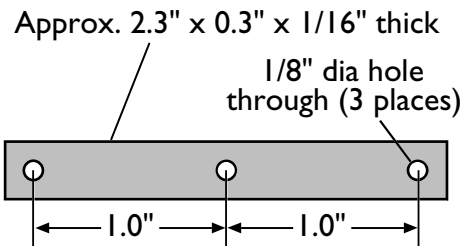

Figure 4. Fabricate the support bar.
2. Fabricate the support bar from thin metal, plastic, or printed circuit board material. Cut the rectangle to size and drill three holes, 3 mm (1/8") in diameter, as shown in Figure 4.